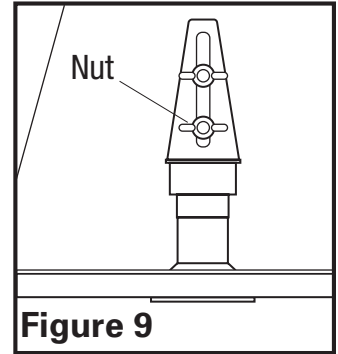

Figure 9
2. Locate the lamp holder bracket mounted on the back wall of the hood (Figure 9).